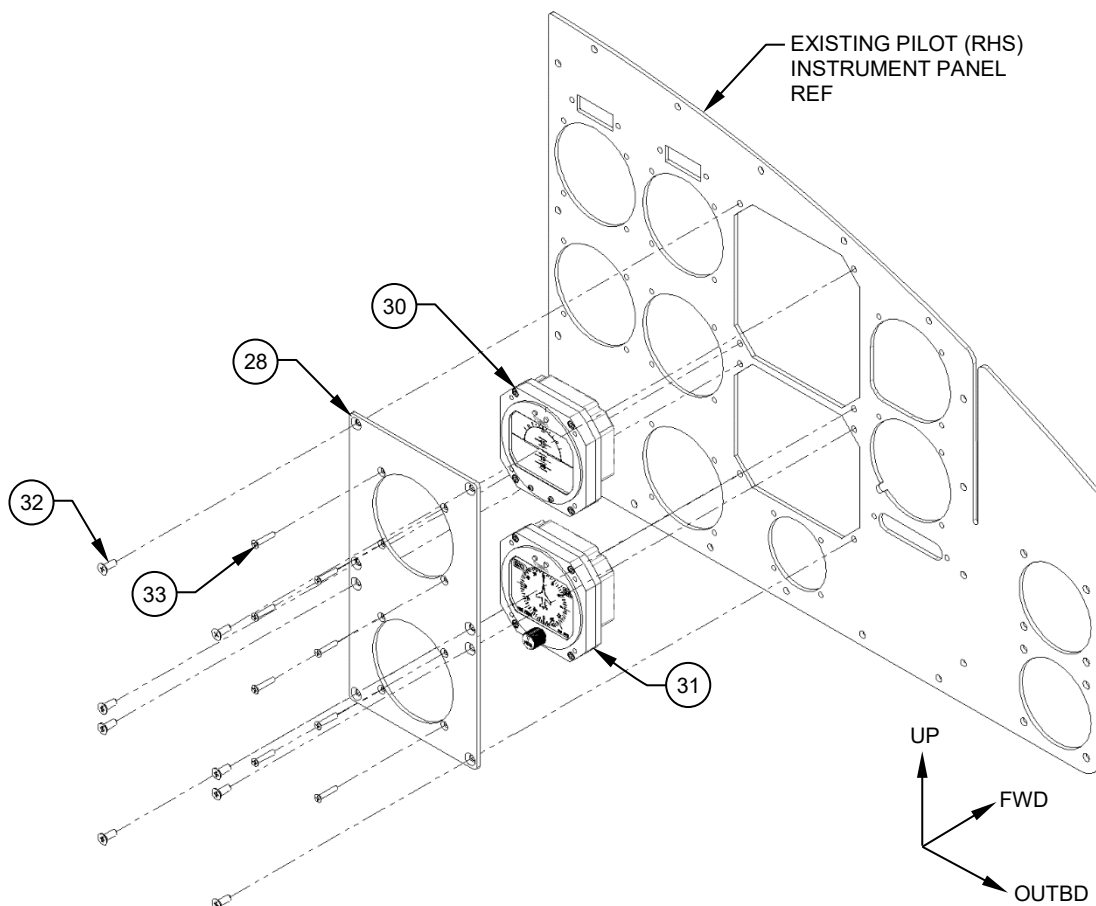

Figure 7
11. Install the Attitude Indicator (Item 30) and Heading Indicator (Item 31) into the Adaptor, Detail (Item 28) on both pilot and co-pilot instrument panels. Reference Figure 7. If installing on an aircraft with a serial number earlier than 30596 install the Attitude Indicator (Item 30) in the Adaptor, Detail (Item 29 (not shown)) and the Heading Indicator (Item 31) directly into the instrument panel in the existing standard three inch hole.